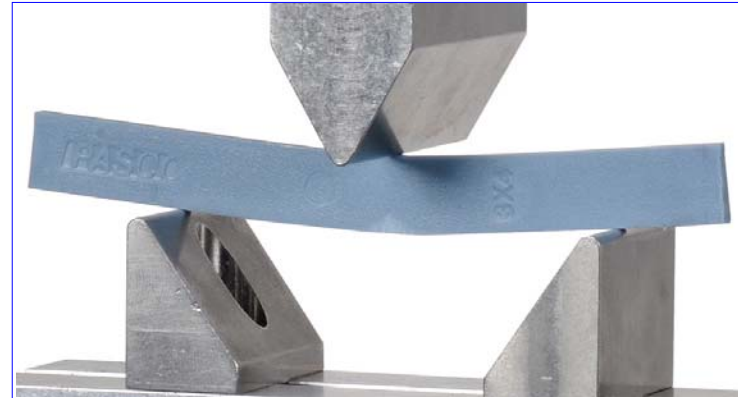

Figure 6. Bending Rectangular Beam
4. Use Eqn. (4) to calculate the Area Moment of Inertia, for the beam being bent in both the strong and weak directions. Record these in the table.
5. Place the beam across the support anvils as shown in Figure 6. This will bend the beam in the strong direction. Turn the crank counter-clockwise until the load anvil is just touching the sample.